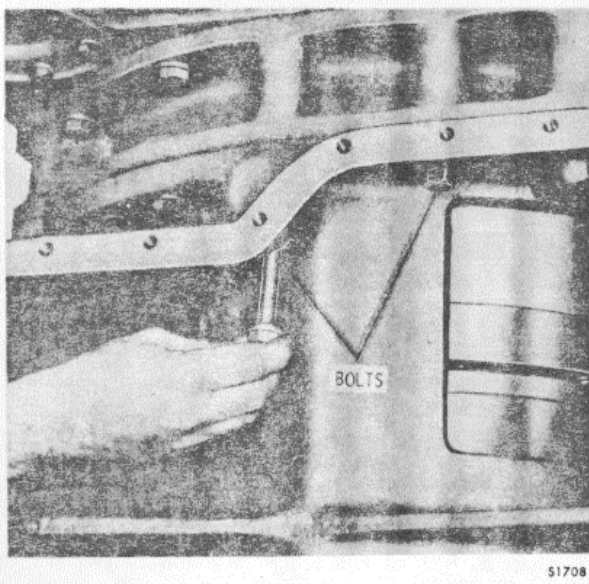

Figure 15-172. Installing Converter Housing Bolts at Bottom of Transmission
2. Install seven 1/2-13 x 1-1/2 inch bolts and lockwashers and twelve 1/2-13 x 5 inch bolts and lockwashers into the converter housing. The short bolts go through the front flange of the retarder housing; the long bolts through the front of the transmission housing and through the retarder housing. Two of the 5 inch bolts (Figure 15-172) are located in the bottom of the transmission. Tighten the bolts to 67-80 lb ft (91-108 N.m).